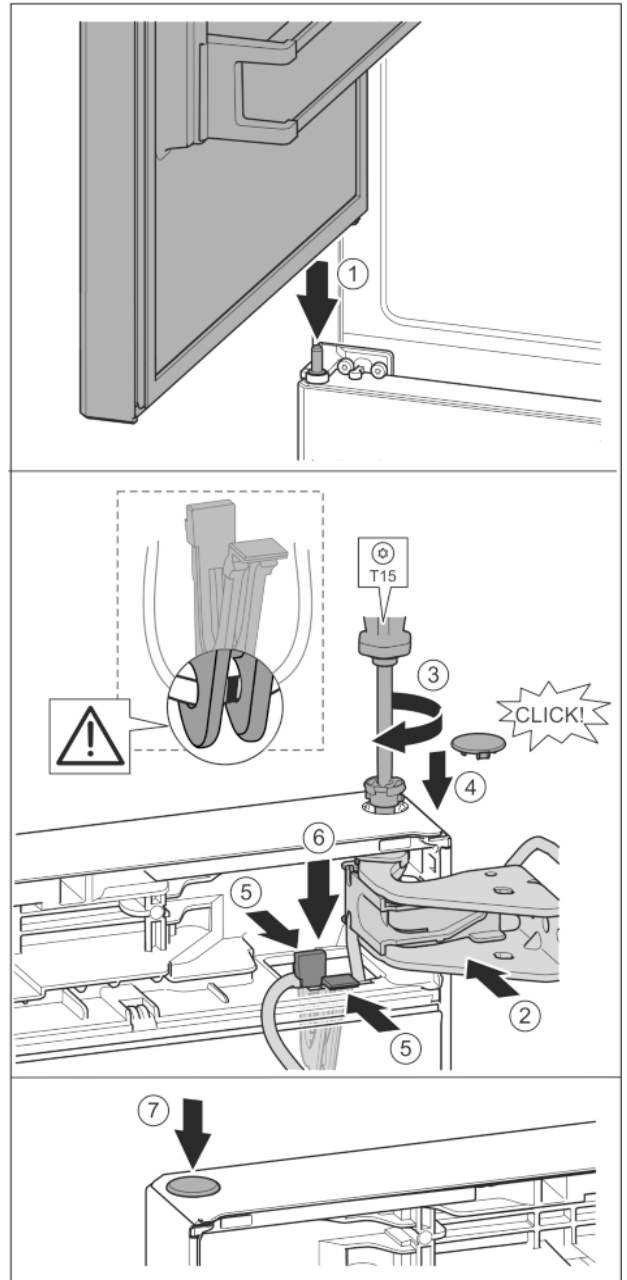

Fig. 35
- ▶ Place the upper door on the centre bearing pins Fig. 35 (1)
- ▶ Align the top of the door with opening in the bearing bracket. Fig. 35 (2)
- ▶ Insert the bolt and tighten with a T15 screwdriver. Fig. 35 (3)
- ▶ Fit the protective cover to protect the door: Insert the protective cover and check that it is attached to the door. If not, insert the bolt fully. Fig. 35 (4)
- ▶ Insert the holder with its cable into the opening. *Fig. 35 (5)*
- ▶ Press the holder downwards until the tab clicks into place. *Fig. 35 (6)*
- ▶ Insert the plugs. *Fig. 35 (7)*